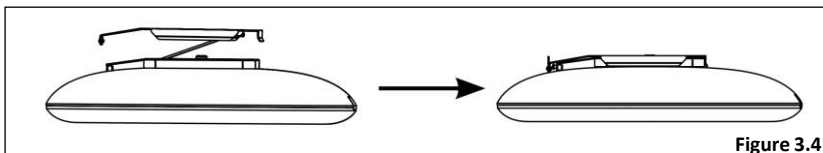

Figure 3.4
- Slide the fixture toward the Locking Hinge. [Fig 3.4]